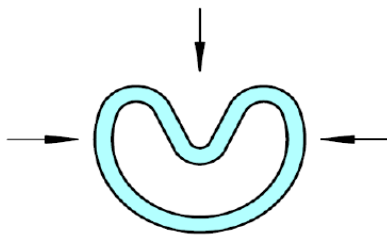

Figure 10 : Kidney-shaped deformation of the seal ring
- After placing into the groove, form the seal into a ring again in the groove by hand as shown in figure 10